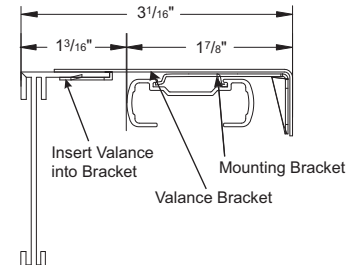

Figure 1 - Serenade Designer Valance with Universal Hardware
**Please Note:** The distance from the back of the bracket to the front of the valance measures 3". See Figure 1 and 2 to help you calculate your required return size.